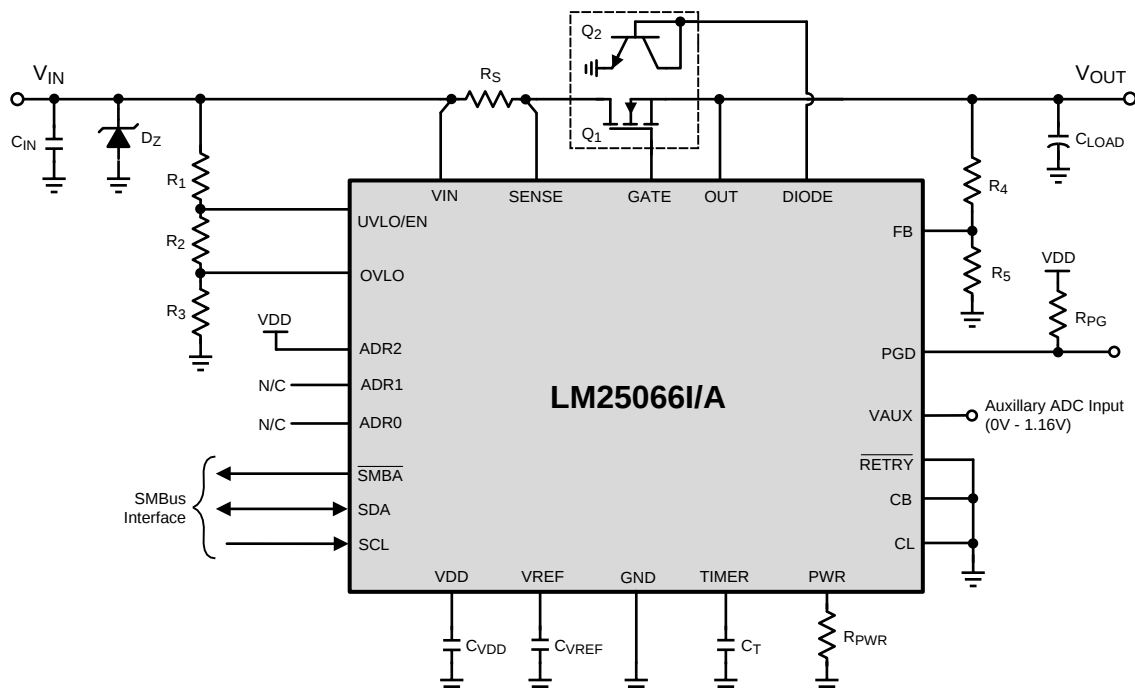
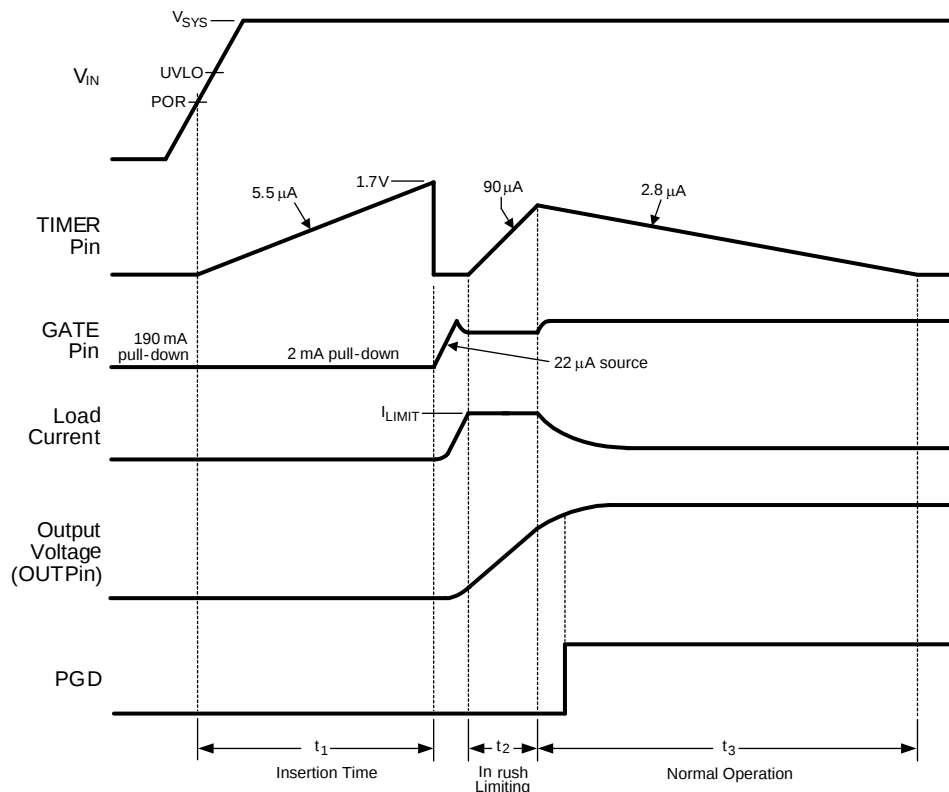

Figure 31. Typical Application Circuit
Figure 32. Power Up Sequence (Current Limit Only)
The V_{IN} operating range of the LM25066I/A is +2.9V to +17V, with transient capability to +24V. Referring to Figure 31 and Figure 32, as the voltage at V_{IN} initially increases, the external N-channel MOSFET (Q_1) is held off by an internal 190 mA pulldown current at the GATE pin. The strong pulldown current at the GATE pin prevents an inadvertent turn-on as the MOSFET’s gate-to-drain (Miller) capacitance is charged. Additionally, the TIMER pin is initially held at ground. When the V_{IN} voltage reaches the POR threshold, the insertion time begins. During the insertion time, the capacitor at the TIMER pin (C_T) is charged by a 5.5 μ A current source and Q_1 is held off by a 2 mA pulldown current at the GATE pin regardless of the input voltage. The insertion time delay allows ringing and transients at V_{IN} to settle before Q_1 is enabled. The insertion time ends when the TIMER pin
As the voltage at the OUT pin increases, the LM25066I/A monitors the drain current and power dissipation of MOSFET Q_1 . Inrush current limiting and/or power limiting circuits actively control the current delivered to the load. During the inrush limiting interval (t_2 in Figure 32), an internal 90 μ A fault timer current source charges C_T . If Q_1 's power dissipation and the input current reduce below their respective limiting thresholds before the TIMER pin reaches 1.7V, the 90 μ A current source is switched off and C_T is discharged by the internal 2.8 μ A current sink (t_3 in Figure 32). The PGD pin switches high when FB exceeds its rising threshold of 1.167V.
A charge pump provides the voltage at the GATE pin to enhance the N-Channel MOSFET's gate. During normal operating conditions (t_3 in Figure 32) the gate of Q_1 is held charged by an internal 22 μ A current source. The voltage at the GATE pin (with respect to ground) is limited by an internal 18.8 V zener diode. See the graph "GATE Pin Voltage" shown previously. Since the gate-to-source voltage applied to Q_1 could be as high as 18.8 V during various conditions, a zener diode with the appropriate voltage rating must be added between the GATE and OUT pins if the maximum V_{GS} rating of the selected MOSFET is less than 18.8 V. The external zener diode must have a forward current rating of at least 190 mA. When the system voltage is initially applied, the GATE pin is held low by a 190 mA pulldown current. This helps prevent an inadvertent turn-on of the MOSFET through its drain-gate capacitance as the applied system voltage increases.
During the insertion time (t_1 in Figure 32) the GATE pin is held low by a 2 mA pulldown current. This maintains Q_1 in the off-state until the end of t_1 , regardless of the voltage at VIN or UVLO. Following the insertion time (t_2 in Figure 32), the gate voltage of Q_1 is controlled to keep the current or power dissipation level from exceeding the programmed levels. While in the current or power limiting mode, the TIMER pin capacitor is charging. If the current and power limiting cease before the TIMER pin reaches 1.7V, the TIMER pin capacitor then discharges, and the circuit begins normal operation. If the inrush limiting condition persists such that the TIMER pin reached 1.7V during t_2 , the GATE pin is then pulled low by the 190 mA pulldown current. The GATE pin is then held low until either a power up sequence is initiated (RETRY pin to VDD), or an automatic retry is attempted (RETRY pin to GROUND). See Fault Timer and Restart. If the system input voltage falls below the UVLO threshold or rises above the OVLO threshold, the GATE pin is pulled low by the 2 mA pulldown current to switch off Q_1 .
When the current limit or power limit threshold is reached during turn-on, or as a result of a fault condition, the gate-to-source voltage of Q_1 is controlled to regulate the load current and power dissipation in Q_1 . When either limiting function is active, a 90 μ A fault timer current source charges the external capacitor (C_T) at the TIMER pin as shown in Figure 32 (Fault Timeout Period). If the fault condition subsides during the Fault Timeout Period before the TIMER pin reaches 1.7V, the LM25066I/A returns to the normal operating mode and C_T is discharged by the 1.9 mA current sink. If the TIMER pin reaches 1.7V during the Fault Timeout Period, Q_1 is switched off by a 2 mA pulldown current at the GATE pin. The subsequent restart procedure then depends on the selected retry configuration.
A) Insertion Delay -Upon applying the system voltage (V_{SYS}) to the circuit, the external MOSFET (Q_1) is held off during the insertion time (t_1 in Figure 32) to allow ringing and transients at V_{SYS} to settle. Since each backplane's response to a circuit card plug-in is unique, the worst case settling time must be determined for each application. The insertion time starts when VIN reaches the POR threshold, at which time the internal 5.5 μA current source charges C_T from 0V to 1.7V. The required capacitor value is calculated from: